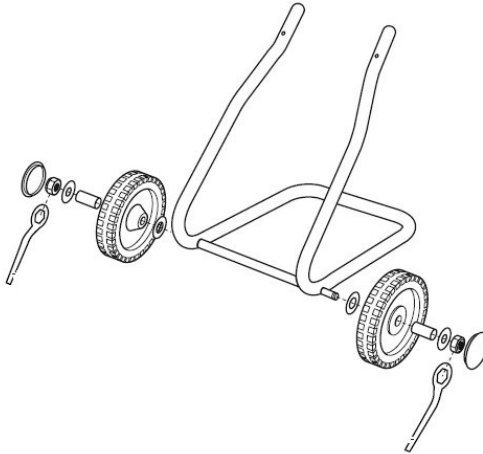
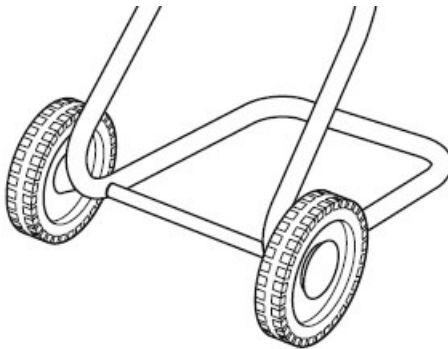

Fig.1
Fig.2
3. Assemble the wheel axle to the stand assembly; put the spacer onto the axle; insert the wheels on the axle, then attach washer and lock nut to the axle with supplied wrench to secure. (Fig. 1)
4. Press the wheel covers into the wheels to cover the ends of the axles. You may use a hammer to fasten them securely over the axles. There may be some clearance between the wheel and the wheel cover, it is not necessary to press it to the bottom. (Fig. 1&Fig.2)